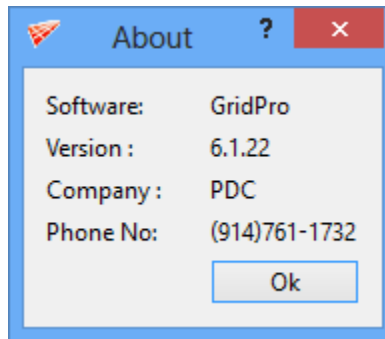

Figure 2.9: About option displaying software information
**About** option displays the software information as shown in figure 2.9.